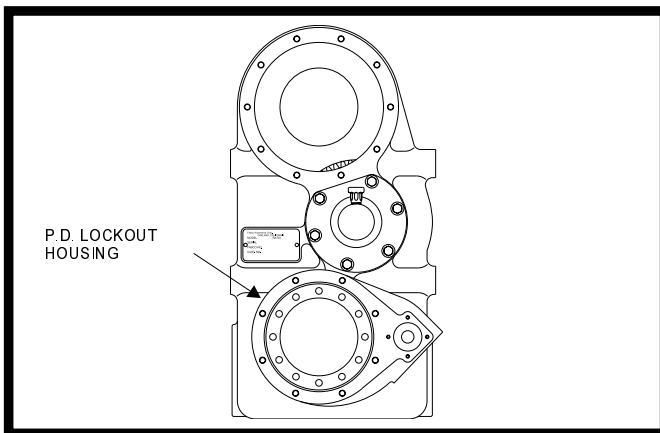

Fig 59
3. Insert the front bearing cup into its bore. Using the original shim pack, position the P.D. lockout housing on the transfer case such that the shifter shaft bores are directly to the left of the lower shaft bore (as viewed when the unit is installed in the vehicle). See Figure 59. Install the (6) 12-point cap screws and torque to specification.